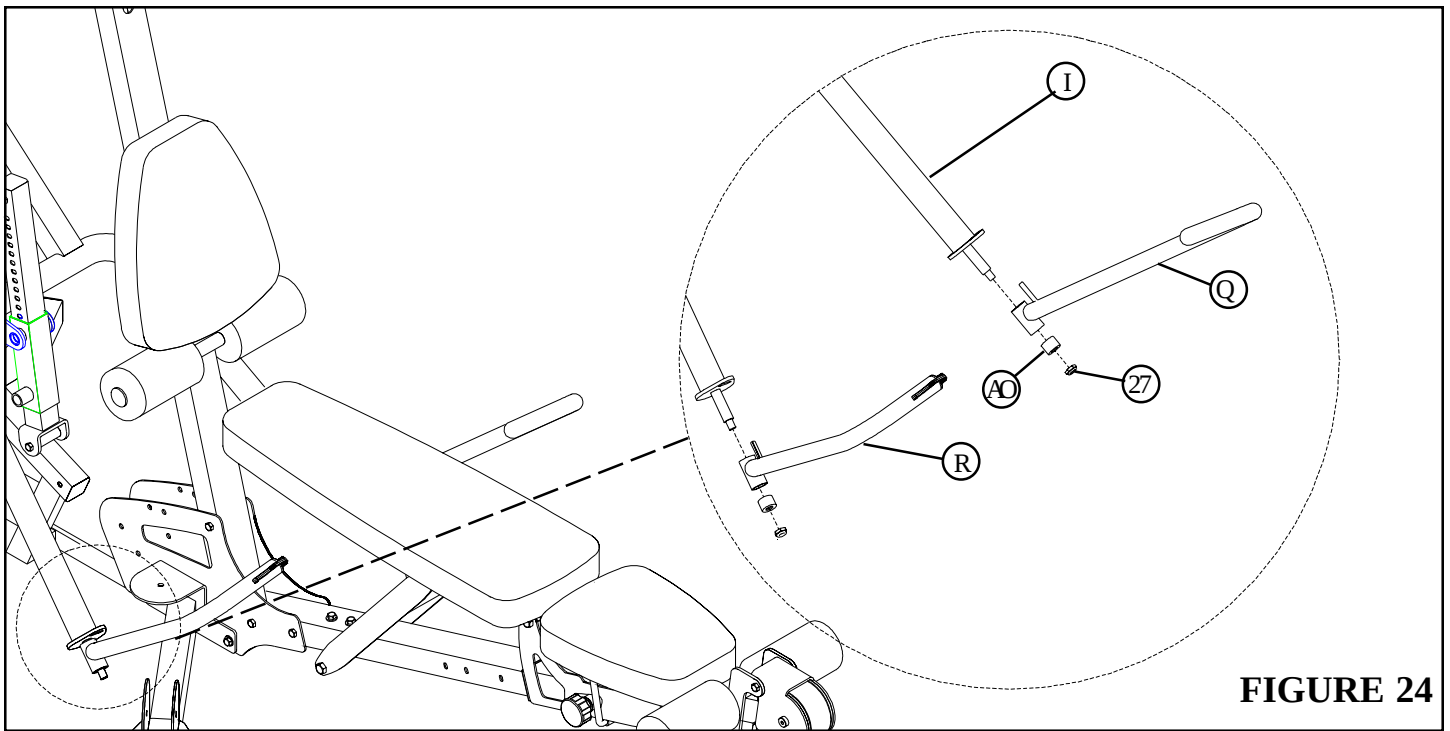

**FIGURE 23**
- **SECURELY** assemble the PRESS ARM ADJUSTMENT (G) to the PRESS ARM (I) and the PRESS ARM ADJUSTMENT TUBE (AH) using two 3/4" JAM NUTS (29) and two 1/4" SPACERS (36) as shown in FIGURE 23.
- **SECURELY** assemble one 3/8 X 1/2" BOLT (19) and one SPRING WASHER (24) to the PRESS ARM ADJUSTMENT (G) as shown in FIGURE 23